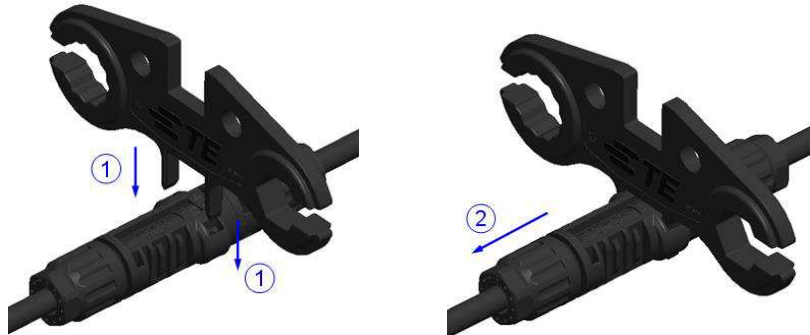

Figure 13
1. The locking mechanism is opened by depressing the latches with hand application tool (PN 1971903-1) as shown in **Figure 13**.